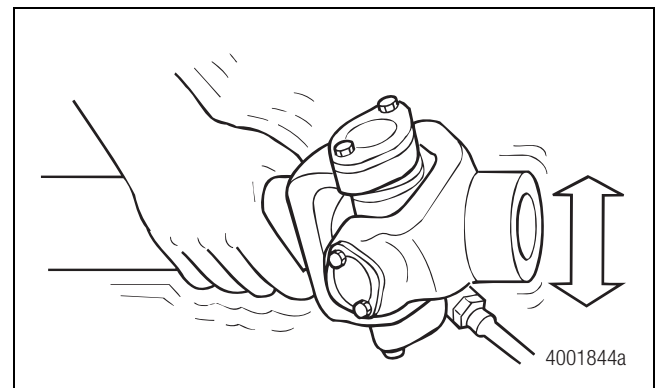

Figure 4.19
1. Move the assembly UP-AND-DOWN or SIDE-TO-SIDE while you apply grease gun pressure. Figure 4.19.